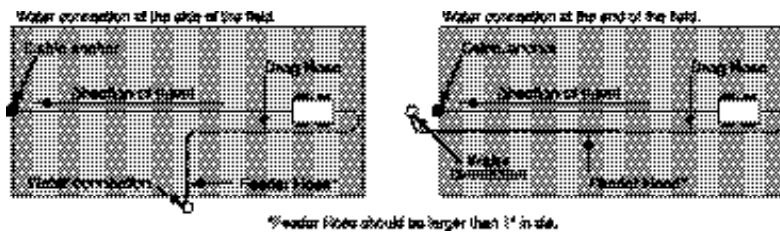

Figure 11. Travel Path and Hose Layout for RainTrain2®.
2. Connect the drag hose to the inlet port of RainTrain2®. Make sure the hose is not bound or kinked to assure proper water flow. Check that all fittings are engaged and locked in place. See figure 11 for the proper layout of the water hoses.